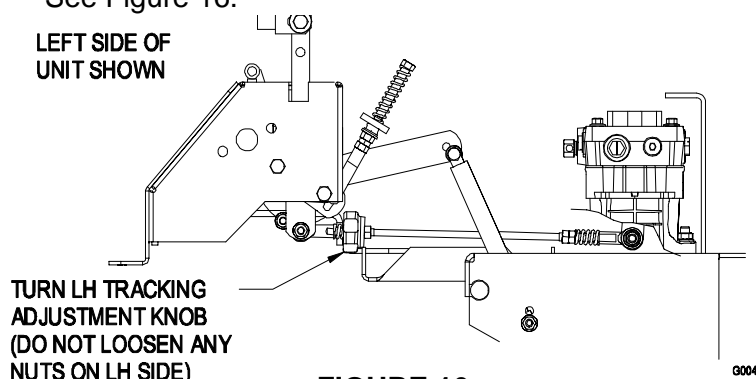

FIGURE 16
- i) Bring the LH motion control lever into the neutral position. Adjust the LH pump control rod length by rotating the tracking adjustment knob in the appropriate direction until the wheels slightly creep in reverse. Move the motion control lever to the reverse position and while applying slight pressure to the lever allow the reverse indicator spring to bring the levers back to neutral. The wheel must stop turning or slightly creep in reverse. See Figure 16.